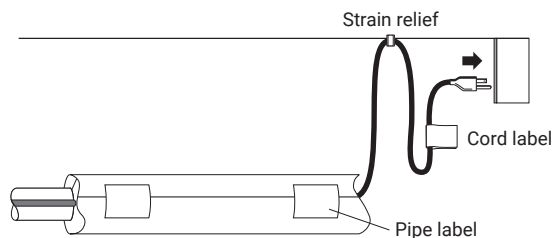

Figure 4. Strain relief
- To prevent damage to the heating cable or cord, secure the power cord (cold lead) with a plastic cable tie, glass cloth tape, or duct tape as shown in Figure 4.